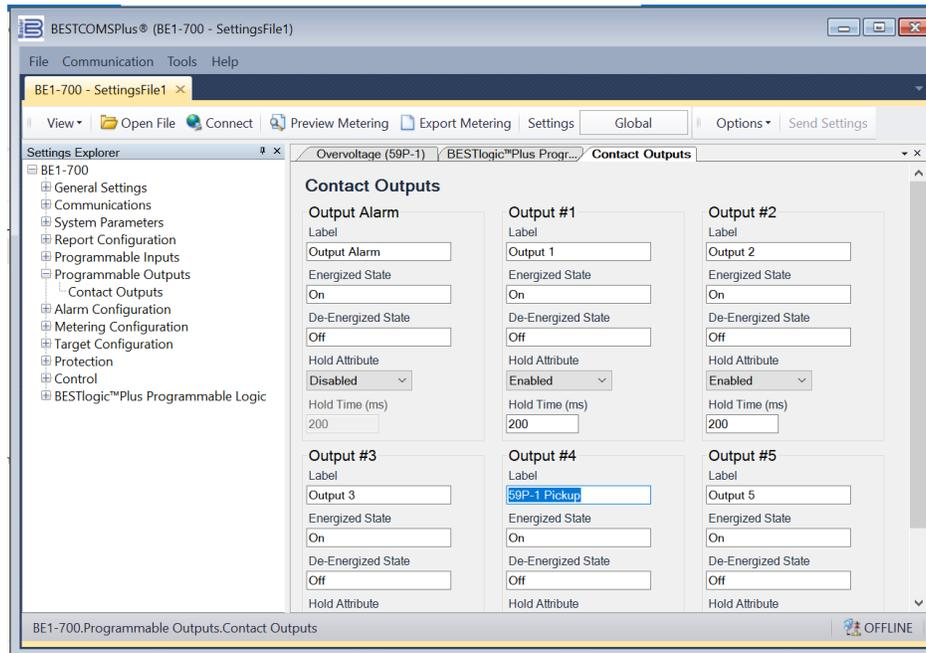

Figure 2-15. Contact Outputs Screen
Step 13: In the Settings Explorer, expand Programmable Outputs, Contact Outputs, and name Output #4 (59P-1 Pickup) as shown in Figure 2-15.